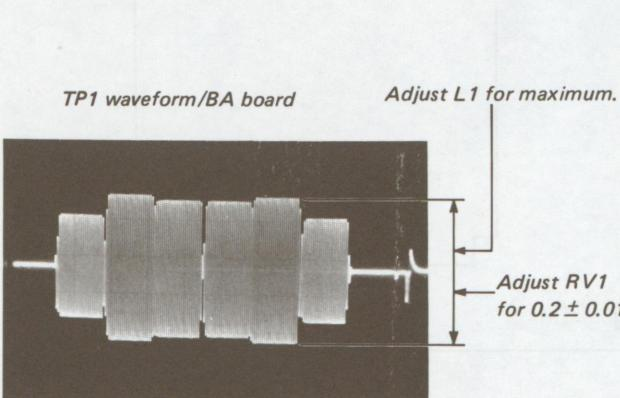

Fig. 5-65.
3. Turn L1 on the BA board so that the output waveform amplitude of the oscilloscope is maximum. Since the turning angle of the L is large for the maximum amplitude, set the L to around its mechanical center in the maximum range of the amplitude. (See Fig. 5-65.)
4. Adjust RV1 on the BA board so that the output waveform of the oscilloscope is 0.2Vp-p. (See Fig. 5-65.)